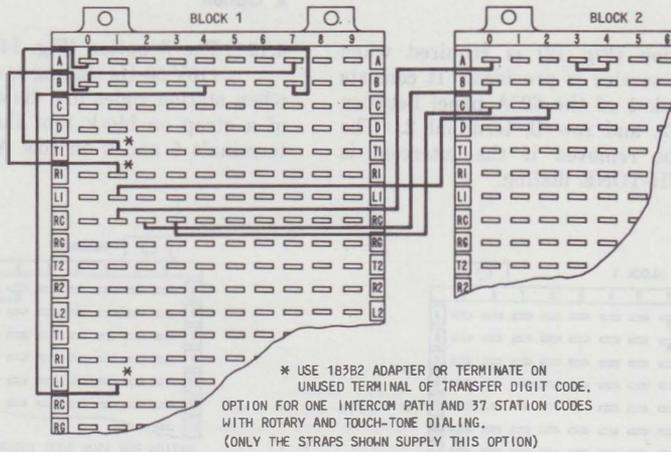

Fig. 10—Y Option
4.06 The Y option (Fig. 10) provides for one intercom path with 37 station codes. Stations can utilize both rotary and TOUCH-TONE dialing. Digits 1, 2, and 3 are used as transfer digits and are not available for station codes. Option G must be used with the Y option to provide audible signaling.